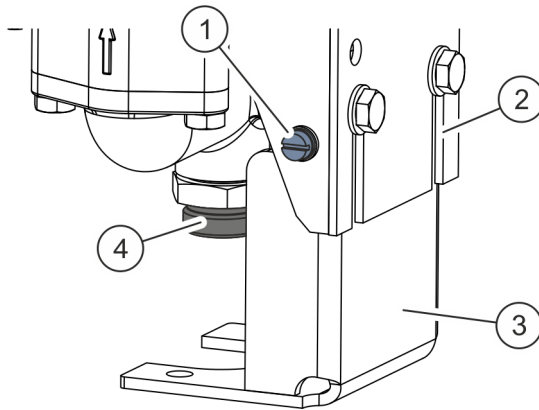

Fig. 3: Installation
1. ➔ Install the pump directly on a wall or supporting structure using the elongated holes (Fig. 3/2) with suitable fastening screws. In the process, make sure that the material suction connection (Fig. 3/4) points vertically downwards after installation.
The diaphragm pump can be fitted directly to a barrel cover using the optional barrel cover mount (Fig. 3/3).
2. ➔ Connect the earthing with the earthing screw (Fig. 3/1).